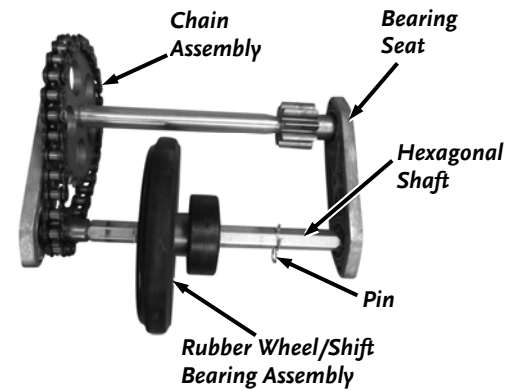

Figure 77
15. Remove the Pin from the Hexagonal Shaft (**Figure 77**).
2. Slide the Rubber Wheel/Shift Bearing Assembly onto the Hexagonal Shaft (**Figure 77**). **IMPORTANT!** – Ensure that the heads of the Bolts are facing the Chain and the Shift Bearing is facing away from the Chain.